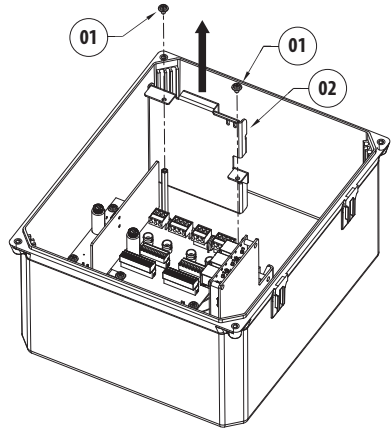

Fig. 16
Remove the screws (01) and take out the splice tray (02) (Fig. 16, page 16).